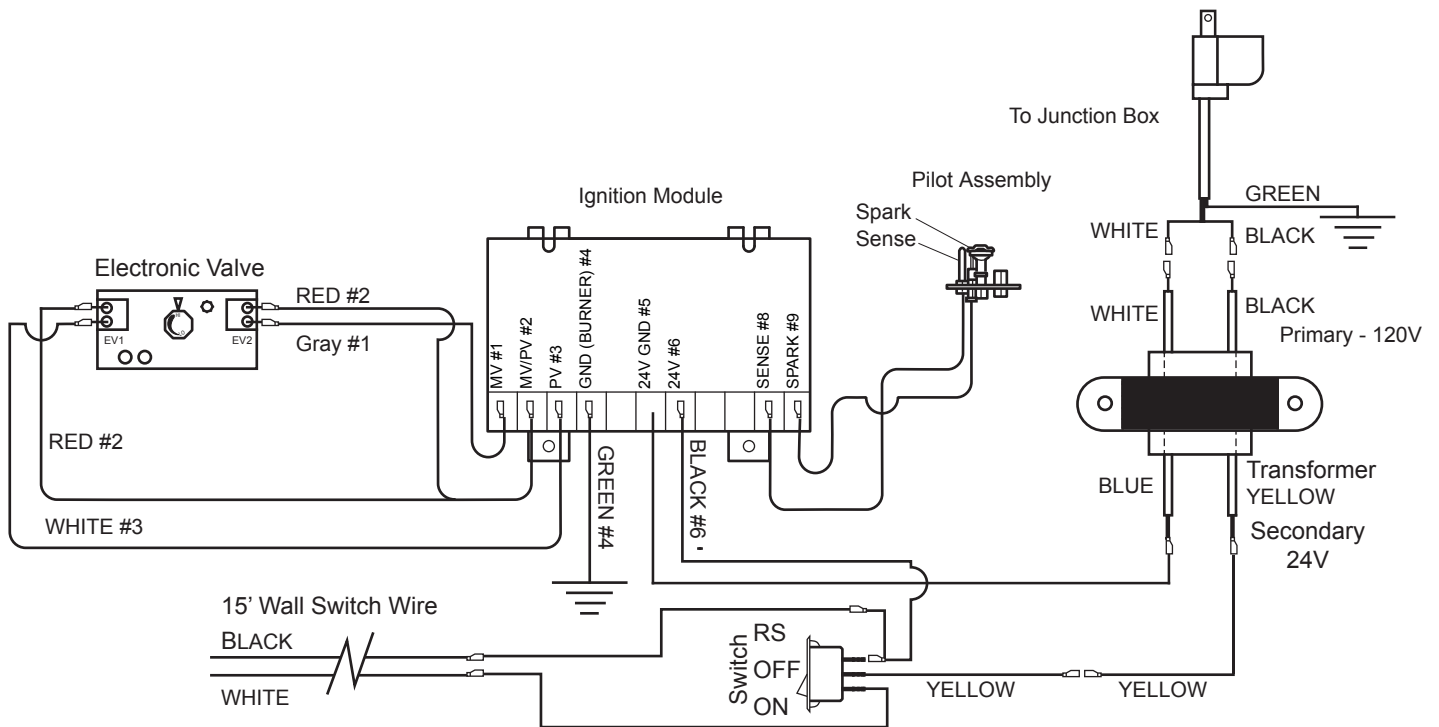

Figure 42 - Remote Wall Switch Wiring Diagram
2. Connect the wire terminal from the remote receiver. This replaces the 15' wall switch connection to the switch. See *Figure 42*.